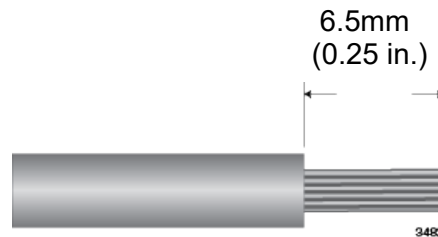

Figure 39. Stripping an Alarm Wire
1. Strip 6.5mm (0.25 in.) of insulation from the ends of two wires with a wire insulator stripper. Refer to Figure 39.